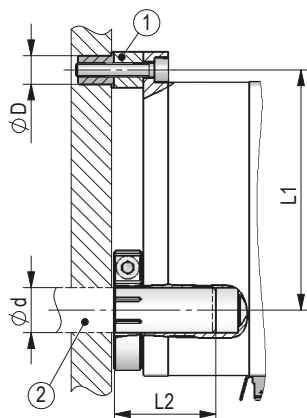
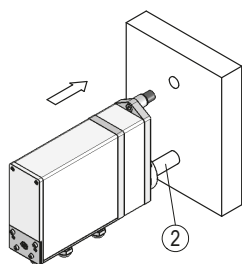
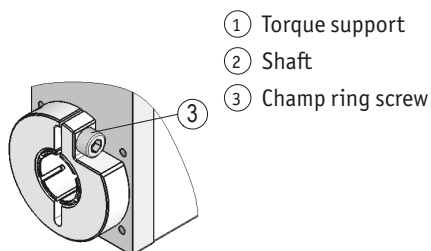

Fig. 1: Mounting dimensions
Fig. 2: Mounting
Fig. 3: Fastening torque for screws
- ▶ Ensure a low shaft and angle offset between shaft and accommodation bore by applying appropriate manufacturing methods (see Fig. 1 + Tab. 1).
Preparing mounting (Fig. 1, Fig. 2, Fig. 3):
Mounting (Fig. 1, Fig. 2, Fig. 3):